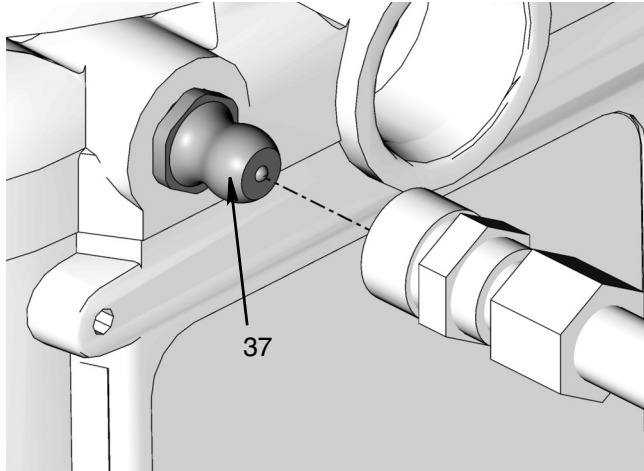

FIG. 7
1. Connect fill hose to inlet fitting (37) (FIG. 7).
1. Connect fill hose to inlet fitting (FIG. 7).